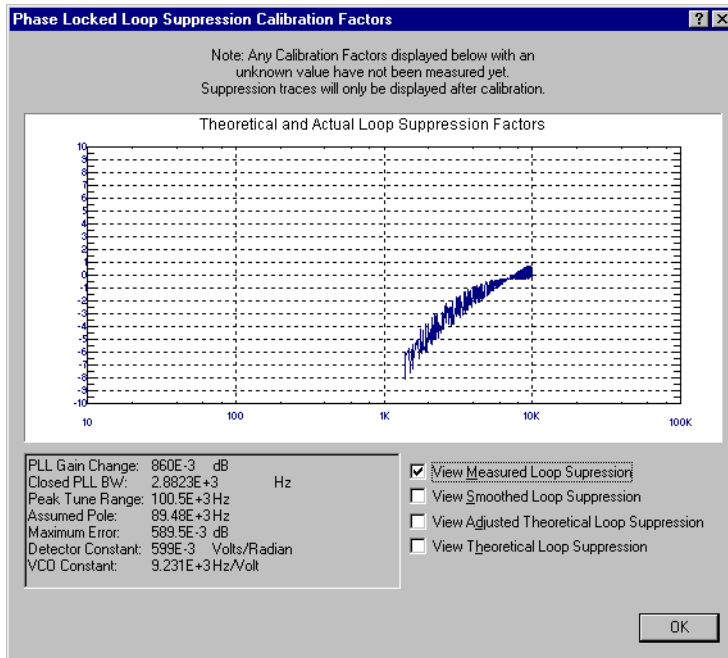

Figure 16-4 Measured Loop Suppression Curve
- 1 “Measured” loop suppression curve (Figure 16-4) - this is the result of the loop suppression measurement performed by the E5500 system;